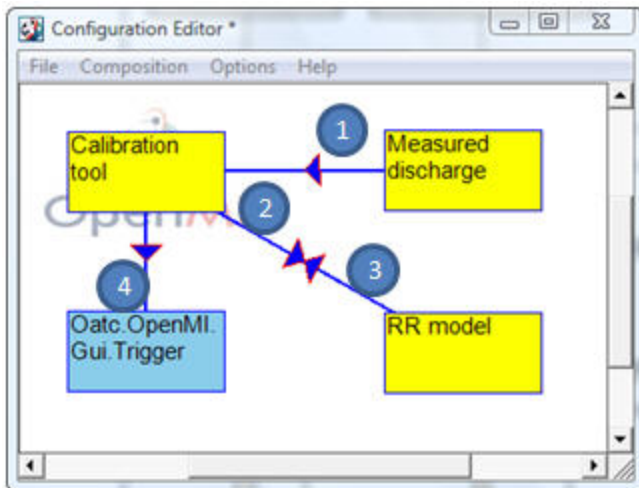

Figure 1: Example configuration for calibration of a rainfall-runoff model.
In figure 1 below the example configuration for the calibration of the RR model is shown. The calibration component is an OpenMI compliant component and appears, as the remaining components in the configuration, as a yellow box. The calibration component will get the measured runoff from an OpenMI compliant time series component (1). Alternatively, the calibration component could get these data from a file or other sources. The calibration component provides model parameter to the RR-model through an OpenMI link (2) and obtains simulated runoff through another OpenMI link (3). Finally, the calibration component is linked to a trigger, which will drive the whole thing forward.